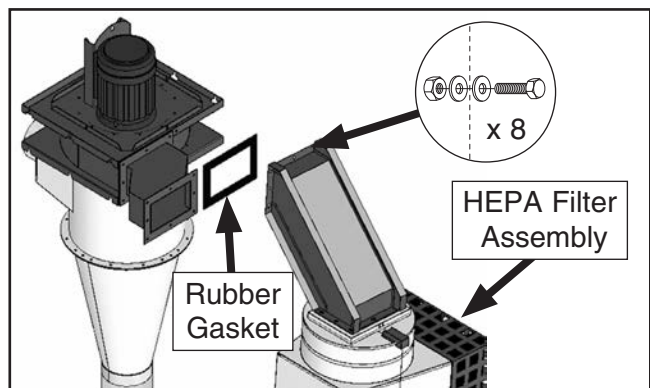

Figure 24. Attaching HEPA filter assembly to wall-mount adapter.
5. Attach rubber gasket to wall-mount adapter (see **Figure 24**), then secure HEPA filter assembly using (8) $\frac{3}{8}$ "-16 x 1" hex bolts, (8) $\frac{3}{8}$ " hex nuts and (16) $\frac{3}{8}$ " flat washers.